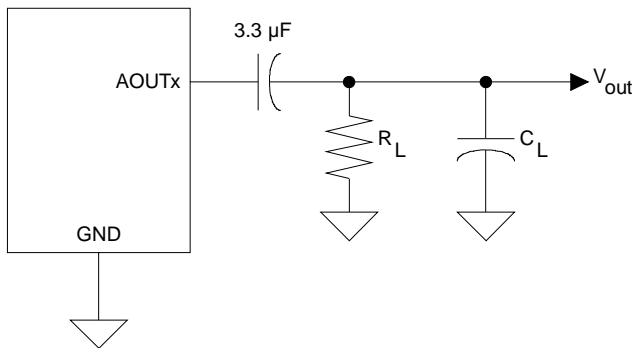

Figure 1. Equivalent Analog Output Load
4. See Figures 1 and 2 on page 16. R_L and C_L reflect the minimum resistance and maximum capacitance allowed in order to maintain stability in the internal op-amp. C_L affects the dominant pole of the internal output amp; increasing C_L beyond 100 pF can cause the internal op-amp to become unstable.